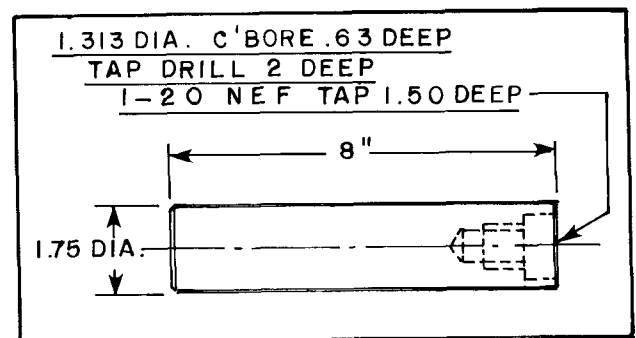
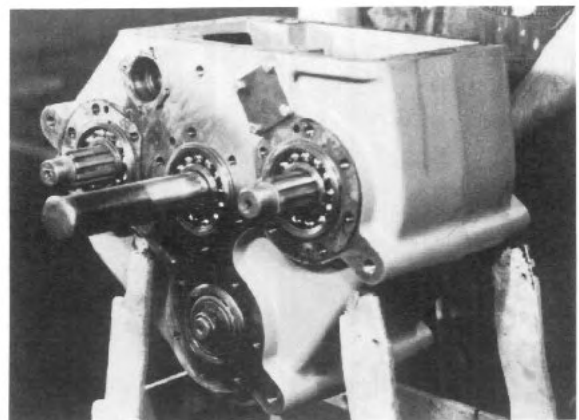

Fig. 20
Fig. 21
1. Remove the capscrews from the front (Item 29) and rear (Item 45) caps. Remove the front (speedo) cap. Remove nut, speedo drive gear and spacer (Items 31, 32, and 33). Screw alignment tool (See Fig. 20 and 21) on to the end of the shaft. Place alignment studs (Fig. 28) in two holes of the rear cap (Item 45).
2. Insert the alignment tool (866 271) which is shown in the accompanying sketch, Fig. 20, through the bearing with the tapped end toward the center of the case (See Fig. 21).